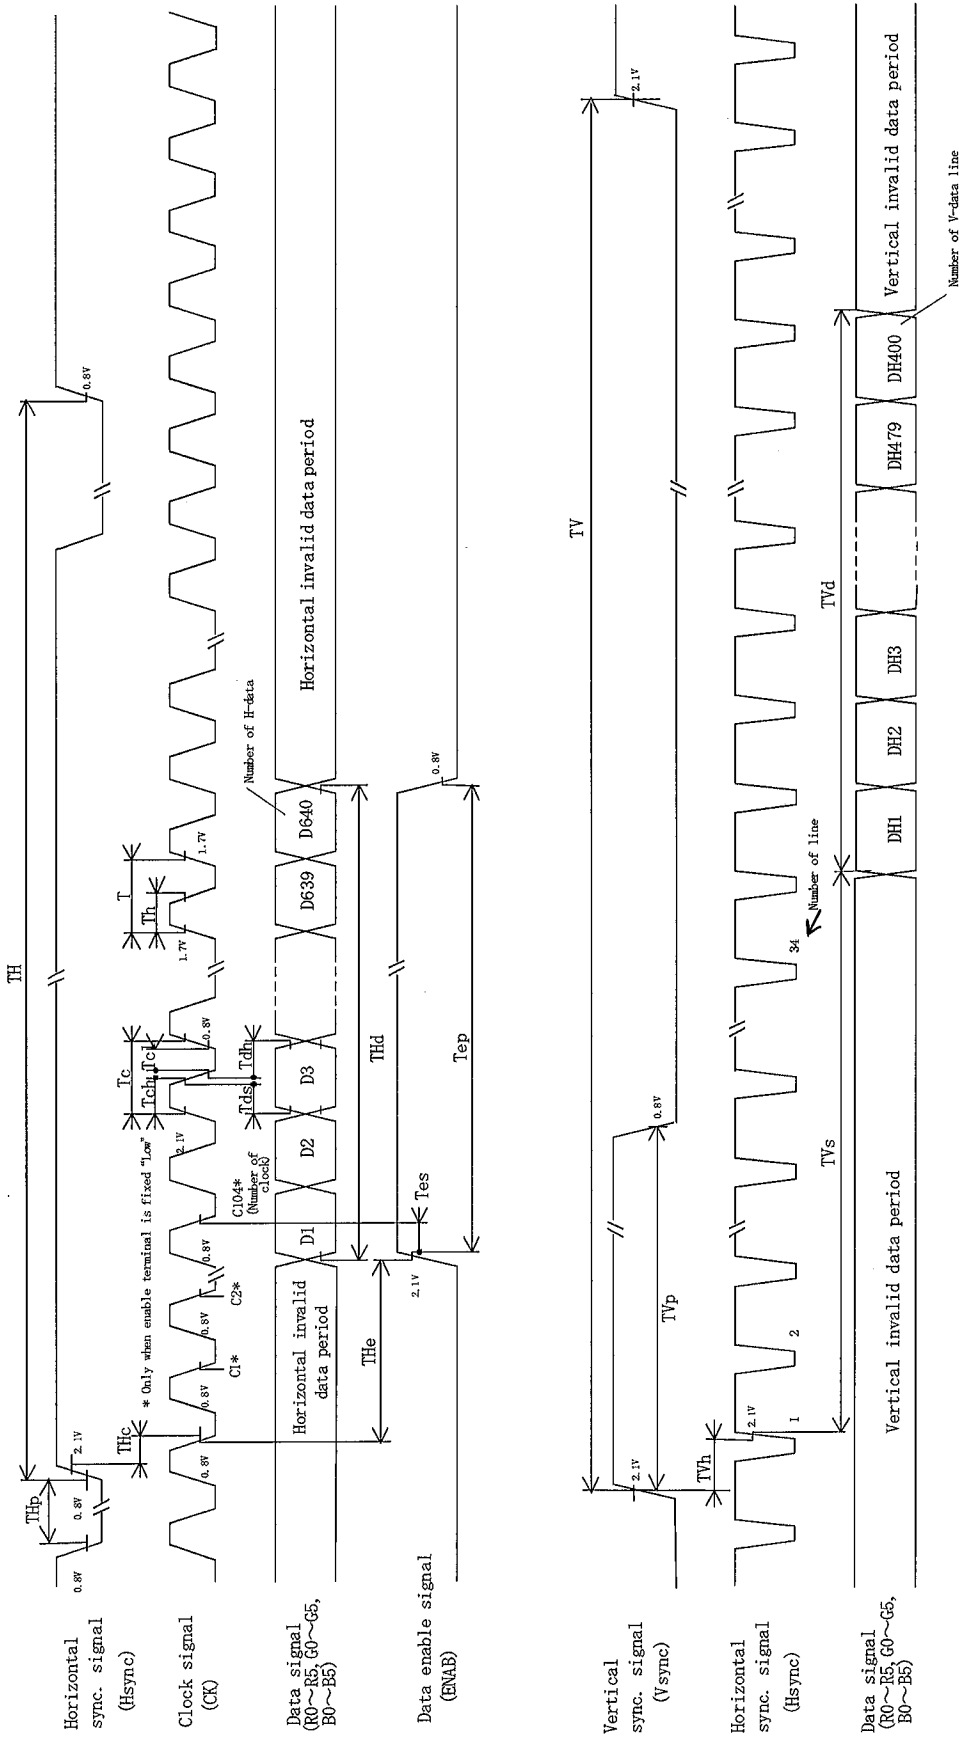

Fig2-② Input signal waveforms (400 line mode)
Timing diagrams of input signal are shown in Fig.2.
[Note] When ENAB is fixed "Low", the display starts from the data of C104(clock) as shown in Fig.2-①~③.